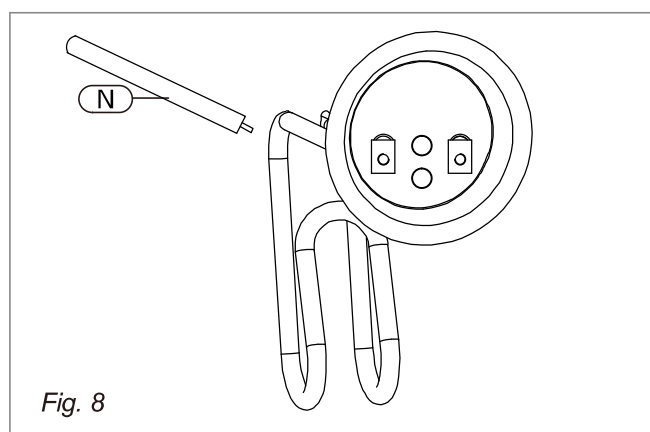

Fig. 8
The purpose of the anode rod (Fig. 8, [N]) is to protect the tank against corrosion. It is critical that the anode rod be inspected once a year to determine whether it requires replacement. To access the anode rod, the heating element must be removed (see Section 5.4 Removing the heating element). Upon inspection, the anode rod surface should appear smooth. If the rod surface appears pitted, bumpy, rusty, or if the rod is
- Remove and replace the anode rod (Fig. 8, [N]).